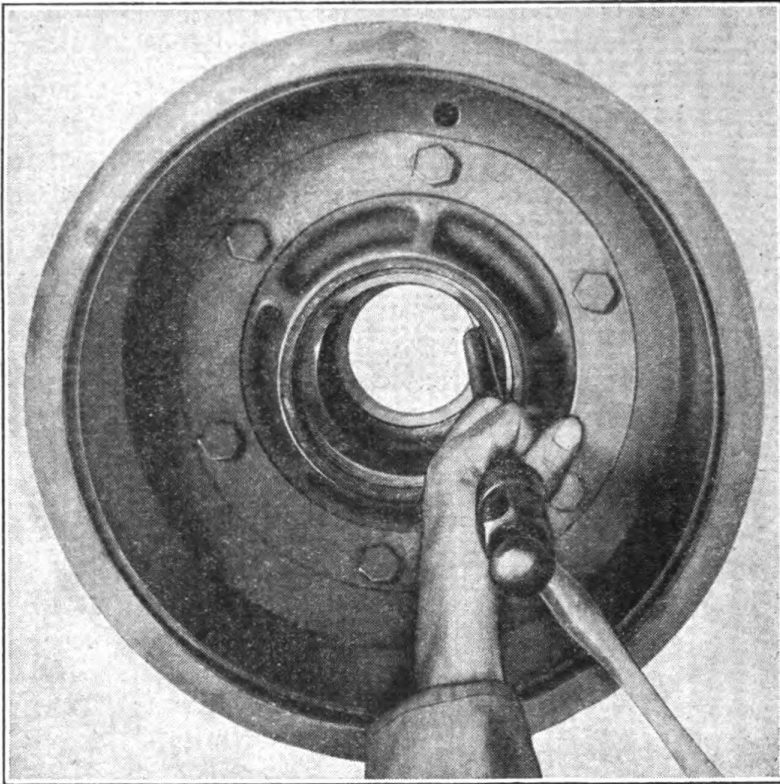

FIGURE 84. REMOVING CUP.
c. Insert compression ring (6) with its flanged side toward the *inside* of hub. Place felt grease retainer (7) next to compression ring.
d. Place dust collar (8) on axle spindle and lock into place by means of the metal dowel (9) which fits into a slot on spindle and a hole in dust collar. Wheel is now ready to slip on.
e. Using a greased skid plate, slide wheel on spindle. Place outer bearing (4) in hub and install D-washer (3).
f. Turn axle nut (2) up tight, then slack off about $1/3$ turn. Test for excessive end play. Use a bar. Rest one end on floor and lift up on outside tire. By working bar up and down while holding one finger on cage of outer bearing, excessive play is quickly detected.
g. With bearings properly adjusted, fit cotter key (1) into wheel nut, fill hub cap $1/3$ full of grease and reinstall with cap screws. Turn wheel. If wheel fails to turn freely check for brake drag by means of slack adjusters. If this fails to correct the trouble, felt grease retainer probably slipped out of place during assembly. To correct this difficulty, remove hub assembly and reinstall.
5. REMOVING BEARING CUPS (Fig. 84).—Place a soft steel bar on inside shoulder or edge of cup to be removed. Using a heavy hammer, hit first one side of cup and then the other. By alternating in this manner, cup will come out straight with cup bore. Danger of wedging of cup in bore is minimized.